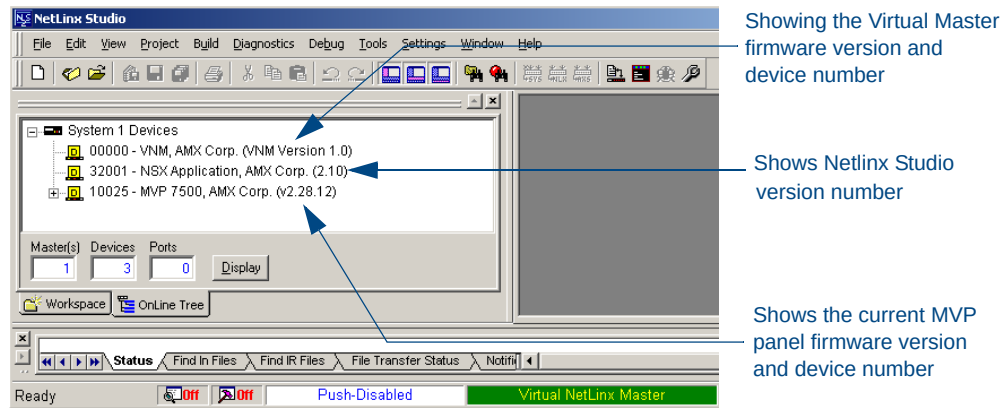

FIG. 68 NetLinX Workspace window (showing panel connection via a Virtual NetLinX Master)
3. After the *Communication Verification* dialog window verifies active communication between the Virtual Master and the panel, click the **OnLine Tree** tab in the Workspace window (FIG. 68) to view the devices on the Virtual System. *The default System value is 1.*
4. Right-click on the System entry (FIG. 68) and select **Refresh System** to re-populate the list. Verify the panel appears in the **OnLine Tree** tab of the Workspace window. *The default Modero panel value is 1.*